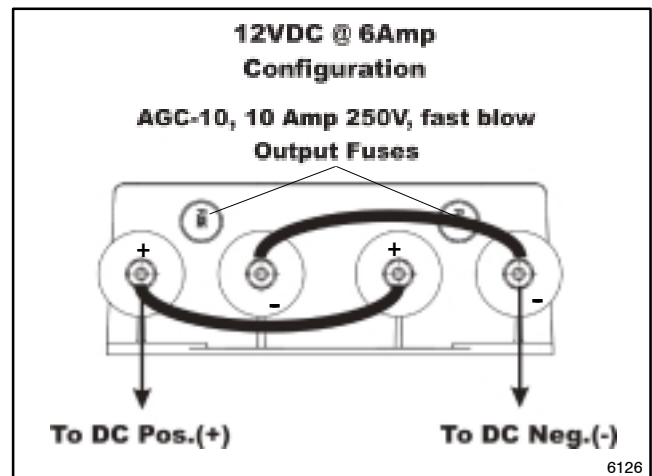
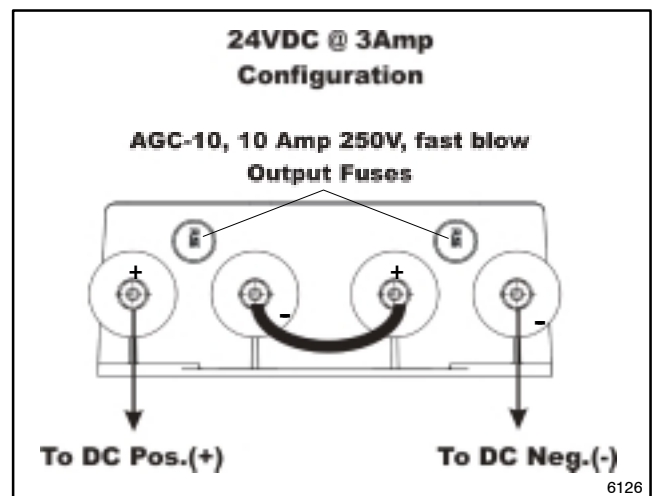

Figure 7 12-Volt Battery Charger Configuration
Figure 8 24-Volt Battery Charger Configuration
- 4.2.1 **Configure the battery charger for 12 volts** by attaching leads (SWJ-1004-1414) to battery charger terminals as shown in Figure 7. Place the jumper lead terminal between the two flat washers on the battery charger terminal. Do not final-tighten the battery charger terminal nuts at this time.
- 4.2.2 **Configure the battery charger for 24 volts** by attaching lead (SWJ-1004-1414) to battery charger terminals as shown in Figure 8. Place the jumper lead terminal between the two flat washers on the battery charger terminal. Do not final-tighten the battery charger terminal nuts at this time.
- 5.5 Attach the red and black cables to the battery charger terminals as shown in Figure 7 (12-volt electrical systems) or Figure 8 (24-volt electrical systems). Place the cable terminal between the two flat washers on the battery charger terminal.